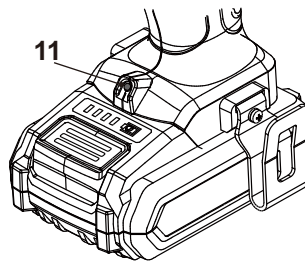

Fig. 16
The work light (11) will automatically illuminate by pressing the on/off switch (7) (Fig. 16).